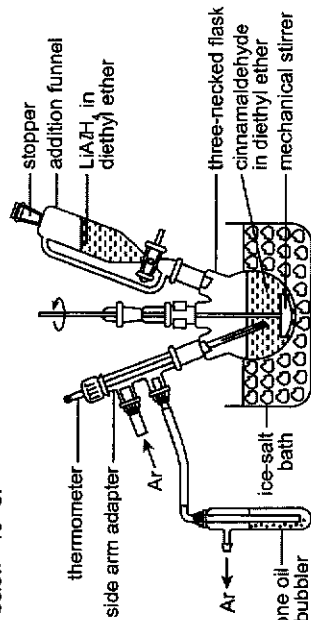

Fig. 4.2
1. Dry, in an oven, a three-necked flask, an addition funnel and a side arm adapter (see Fig. 4.2).
3. Set up the dried apparatus as in Fig. 4.2 with a solution of 10 g of cinnamaldehyde (0.0758 mol) in 25 cm3 of dry diethyl ether in the flask.